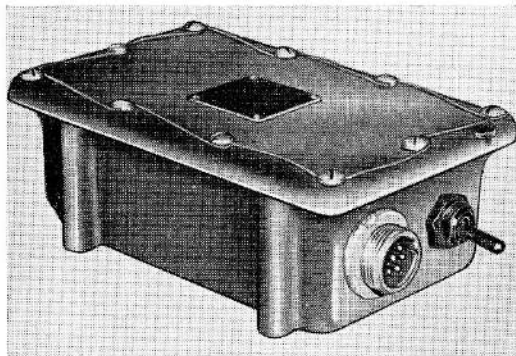

Fig. 1. Relay box, Type D1750
2. The relay box, shown in fig. 1, is a hermetically sealed unit of light-alloy and comprises a case with a pressed lid retained by ten wire-locked 2 B.A. screws. Cast integral with the case are four mounting bosses which are drilled and tapped to take 2 B.A. mounting screws.